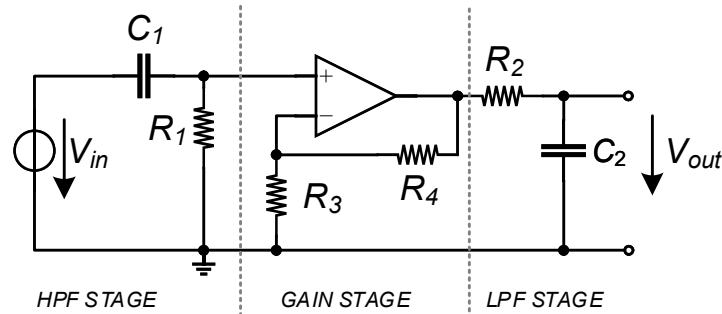

Figure 1: Active Band-Pass Filter.
Consider the Active Band-Pass Filter shown in Fig. 1, with an ideal amplifier, except that it is noisy (you can consider just an equivalent voltage noise source at the negative input neglecting the amplifier current noise sources at its input for the sake of simplicity) and noisy resistors:
- What happens if the HPF stage and the LPF stage in Fig. 1 are swapped? Try to repeat the previous calculation and comment.